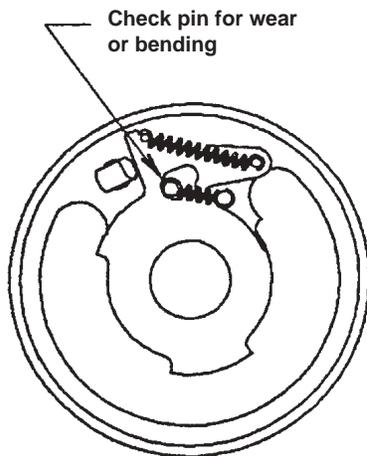
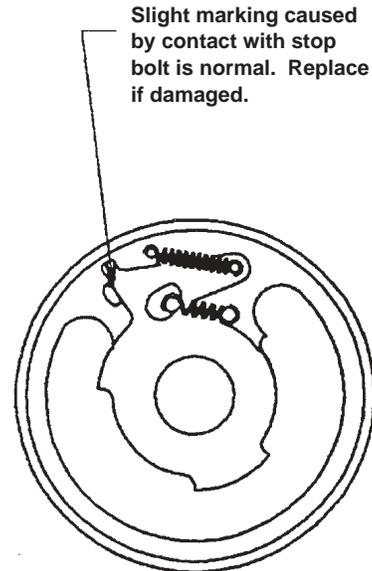

FIG. 7 Shift Key in "Up" Position
FIG. 8 Shift Key in "Down" Position
3. Shift Key (P309-0044) should be examined for breakage or bending, particularly the camming surfaces. Fig. 7 and Fig. 8 show the correct position of the shift key when the shift key finger (019296) is in “Up” or “Dn” position.